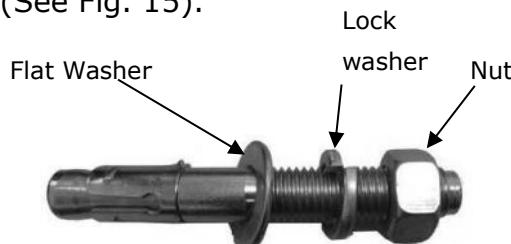

Fig.15
1. Prepare the anchor bolts (See Fig. 15).